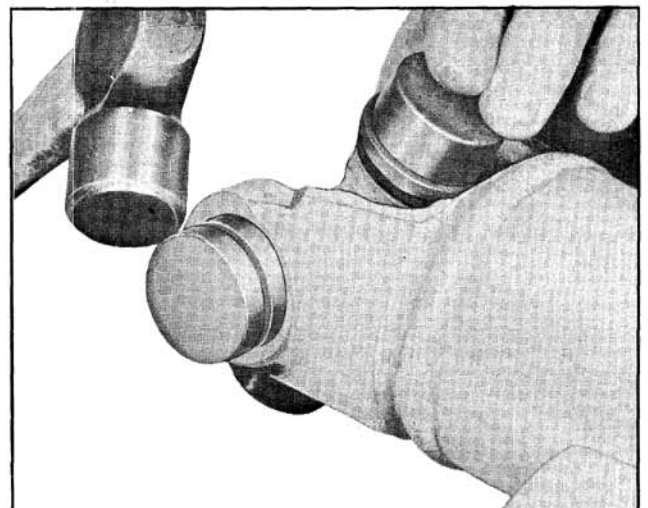

Fig. 10-75 Removing Bearing
5. Completely remove bearings by tapping around circumference of exposed portion with a hammer. (Fig. 10-75)